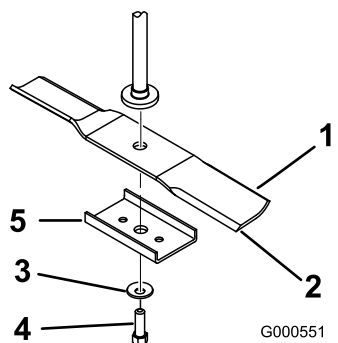

Figure 56
Hold the blade end using a rag or thickly-padded glove. Remove the blade bolt, curved washer, blade stiffener, and blade from the spindle shaft (Figure 56).
1. Install the blade onto the spindle shaft (Figure 56).
2. Install the blade stiffener, the curved washer (cupped side toward the blade) and the blade bolt (Figure 56).